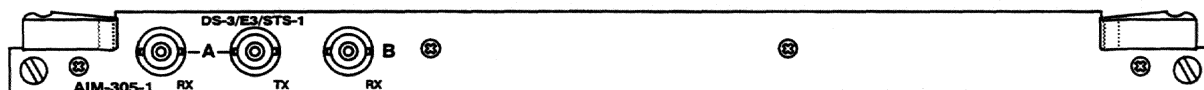

Figure 6-3 AIM-305-1: DS-3/E3/STS-1 Metallic Interface
If you are testing with standard coaxial copper wiring *only*, then any of these three ATM Interface Modules can be used: AIM-302-1, AIM-305, or AIM-306-1. The AIM-305-1 (shown in Figure 6-3) has only coaxial connectors for DS-3 (44.736 Mbps), E3 (34.368 Mbps), and STS-1 (51.84 Mbps) Metallic Interface. Refer to Section 5.4(B) for an explanation of this interface module.